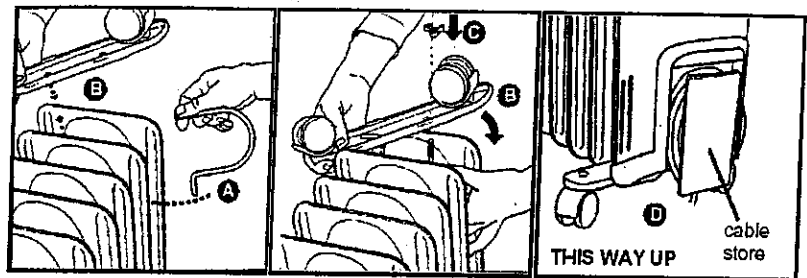

Fig. 2
**IMPORTANT – ENSURE THAT THE CASTORS ARE FITTED TO THE BASE OF THE RADIATOR SO THAT, WHEN IN USE, THE CONTROLS ARE AT THE TOP AND THE CABLE STORAGE AT THE BOTTOM OF THE CONTROL PANEL – see Fig. 2.**
Warning : The radiator is heavy – ensure that it is supported to prevent it from toppling. Ask a second person to help with this if necessary. Locate the wire clamps and remove the plastic straps and winged nuts (see Fig. 2 'C' below).
Insert the non-threaded end of the wire clamp 'A' into one of the two holes in the castor plate 'B' as shown in Fig. 2, at the same time tilting the opposite end of the plate slightly. Lower the castor plate and insert the threaded end of the clamp through the fins and over the boss and into the other hole in the castor plate. Place the winged nut 'C' on the thread and tighten it securely.
Lift the radiator clear of the floor, then turn it back upright and stand it on its castors as shown in Fig. 2 'D'. It is now ready for use.